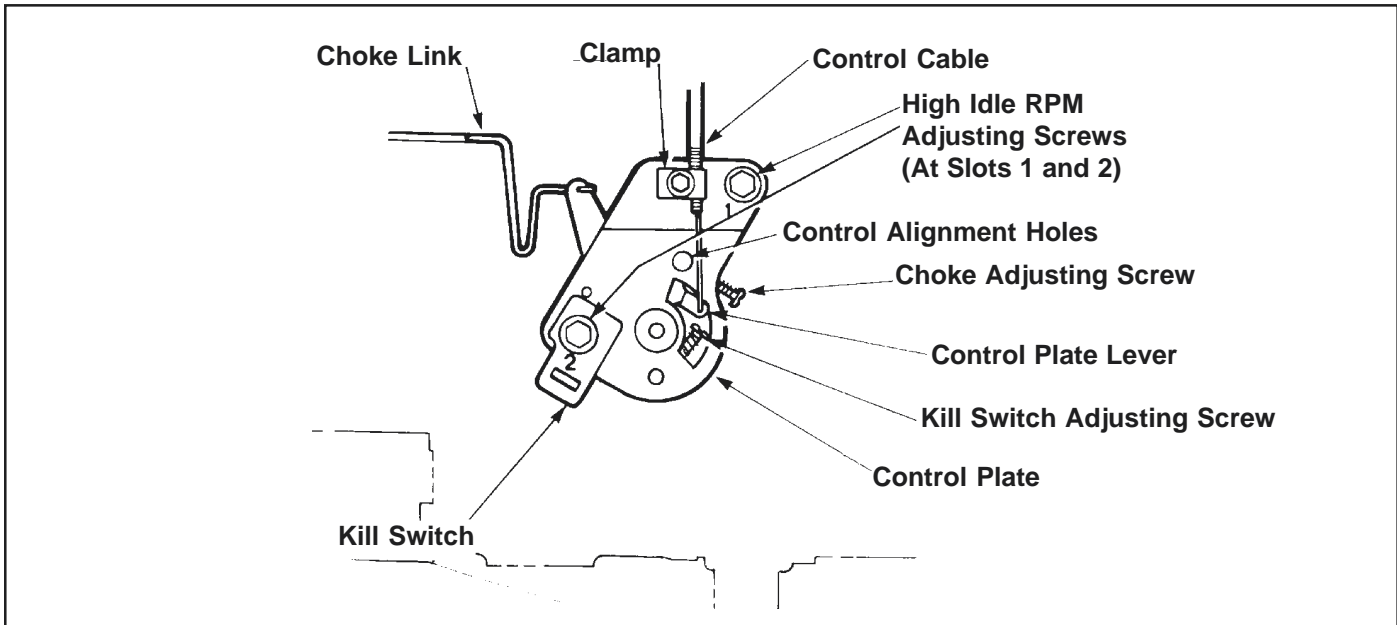

Figure 1. Single Cable Control.
A. How To Install the Single Throttle and Choke Control Cable (See Figure 1)
B. Engines Equipped With An Optional Kill Switch - Single Control (See Figure 1)